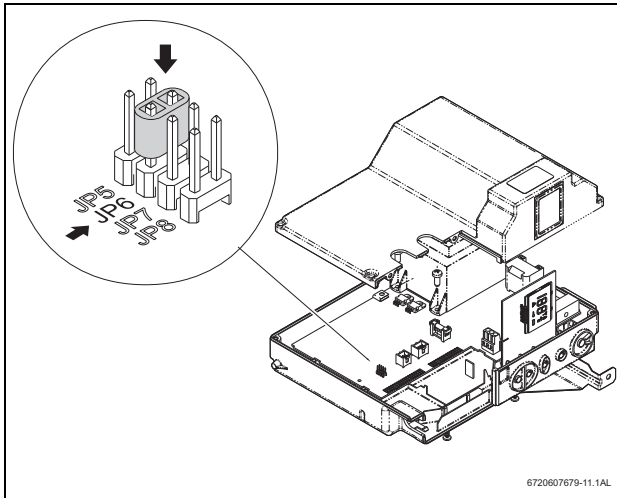

Fig. 4
- ▶ 1. Add jumper to location JP6 on the control board (Fig. 4).
- ▶ 1. remove jumper from location JP6 on the control board (Fig. 4).